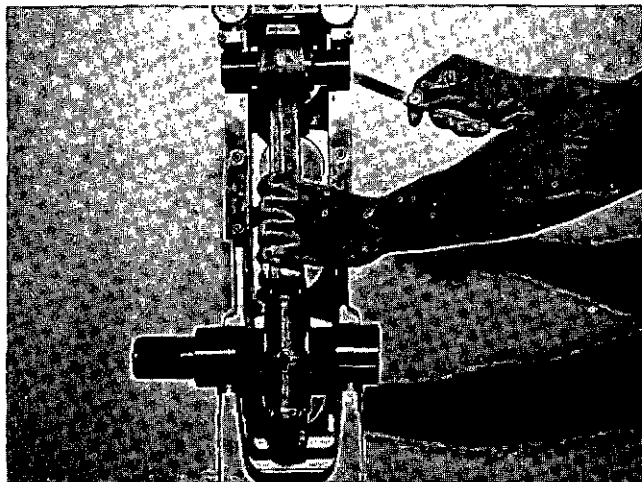

Fig. 1-8-4, V40139. Checking rod twist
6. Measure rod twist with a feeler gauge between piston pin; and dial holding plate. Fig. 1-8-4. When measuring connecting rod, twist in ST-561 and rod does not contain piston pin bushing, twist must not exceed 0.020 inch